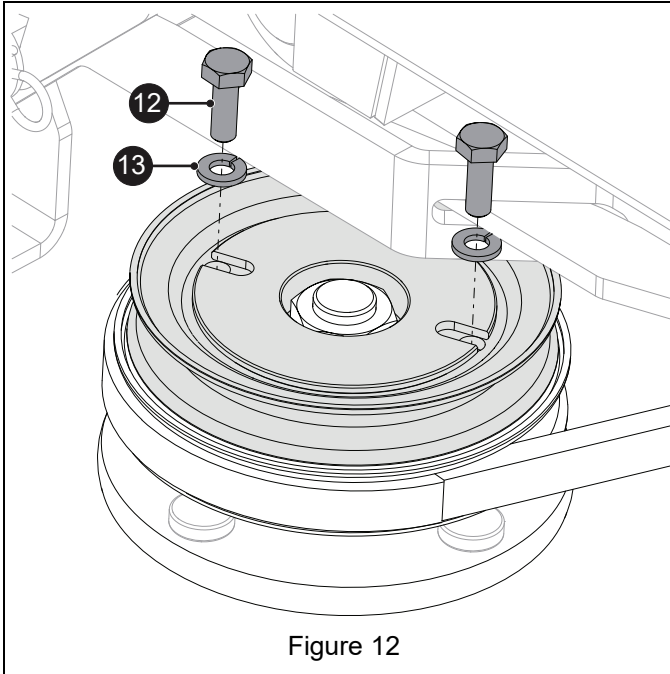

Figure 12
- Secure parts to spindle pulley with two 1/4" x 3/4" hex bolts (item 12) and two 1/4" x 1/16" lock washers (item 13). Torque to 9.5 N•m (7 lb-ft). See Figure 12.